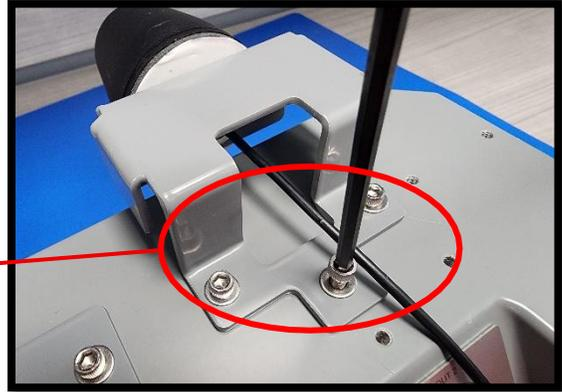

Figure 9: Tighten Bracket Mounting Screws
9. Use a 9/64" Allen or hex wrench to tighten the screws on the antenna bracket to 20 inch-pounds (Figure 9).